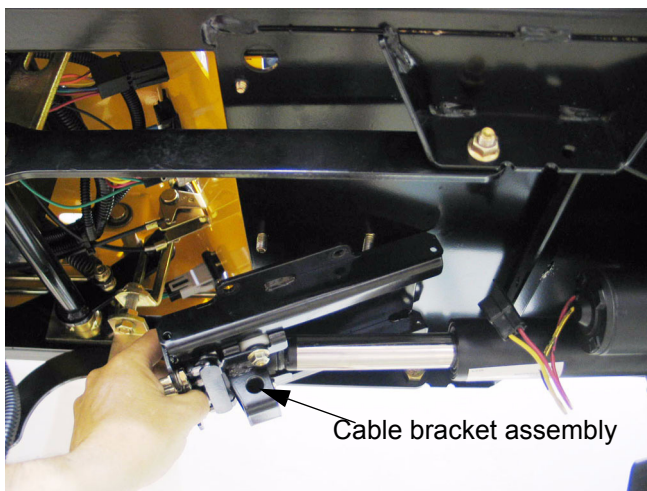

Figure 12.18
12.18. Lower the cable bracket assembly slightly to clear the bolts, draw it rearward to clear the actuator, and remove it. See Figure 12.18.